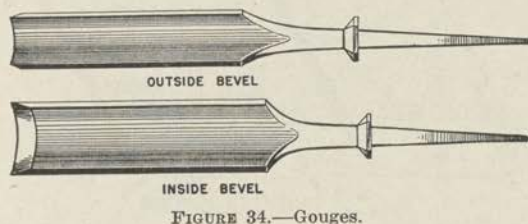

FIGURE 34.—Gouges.
(3) Curved chisels (fig. 34) for scooping or cutting grooves are known as gouges; the bevel is ground on the inside of paring gouges and on the outside of firmer gouges.
(4) If a chisel is driven too deeply into the wood, the wood cannot be chipped without extra pressure. Do not use a firmer chisel for mortising heavy timber. Keep chisels bright and sharp at all times. Protect the cutting edge when not in use. Never abuse a wood chisel by opening boxes, cutting metal, or driving screws with it.